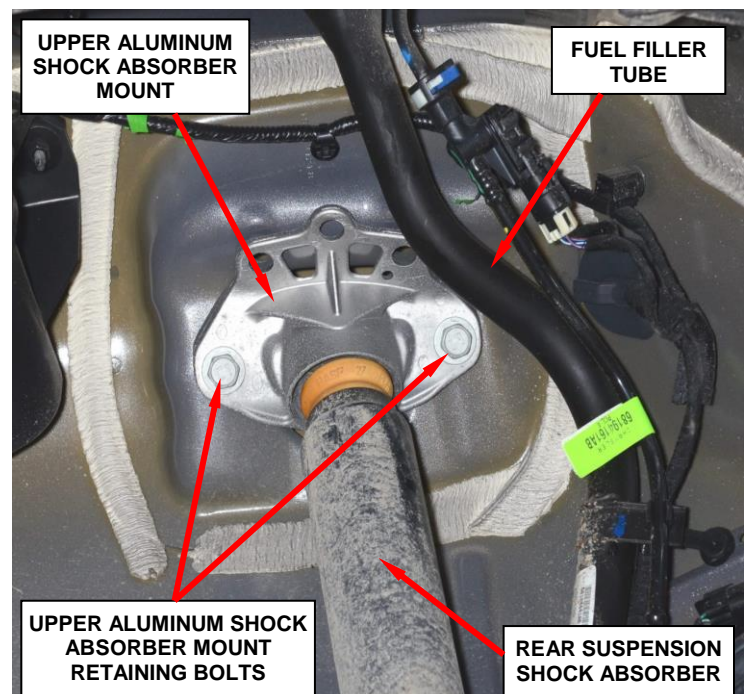

Figure 5 – Upper Aluminum Shock Absorber Mount Retaining Bolts
4. Remove and save the upper aluminum shock absorber mount retaining bolts (Figure 5).
CAUTION: Due to close proximity of fuel filler tube to the right side upper shock absorber mounting bolts, it may be necessary to loosen fuel filler tube bolt to the body to fully gain access to the bolts and prevent damage to the fuel filler tube during shock absorber removal (Figure 5).
9. Install the rear suspension shock absorber upper aluminum mount retaining bolts (Figure 5).